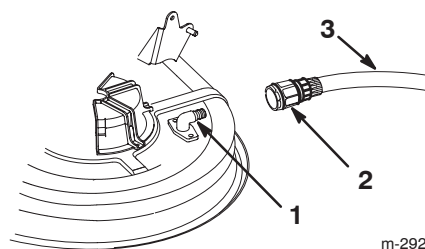

Figure 53
4. Attach the coupling (not included) to the mower washout fitting and turn the water on high (Fig. 53).